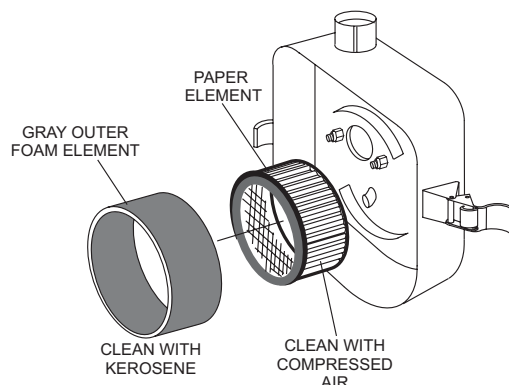

Figure 17. Engine Air Cleaner
- The air cleaner (Figure 17) on the engine side will hardly be contaminated, if it is, clean the outer foam gray element with cleaning solvent. Tightly squeeze outer foam element to remove any excess solvent before re-installing.
- Tap the paper filter element (Figure 17) several times on a hard surface to remove dirt, or blow compressed air [not exceeding 30 psi (207 kPa, 2.1 kgf/cm²)] through the filter element from the air cleaner case side. **NEVER** brush off dirt. Brushing will force dirt into the fibers. Replace the paper filter element if it is excessively dirty.